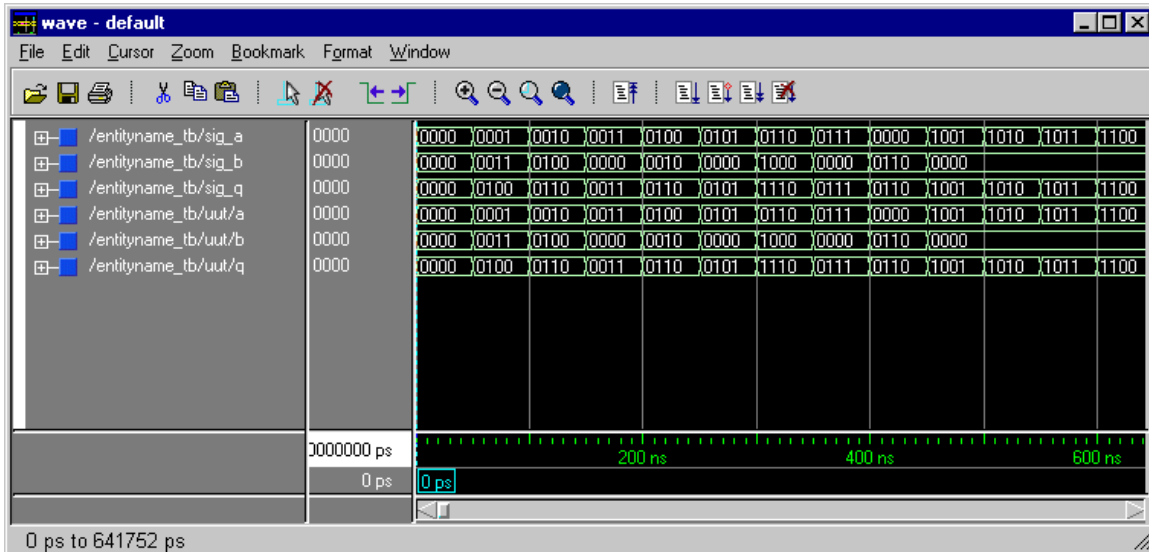

Figure 29 Wave Results
- In the wave window, go to the **Zoom** menu and choose **Zoom Full**. The results are as shown in **Figure 29**.